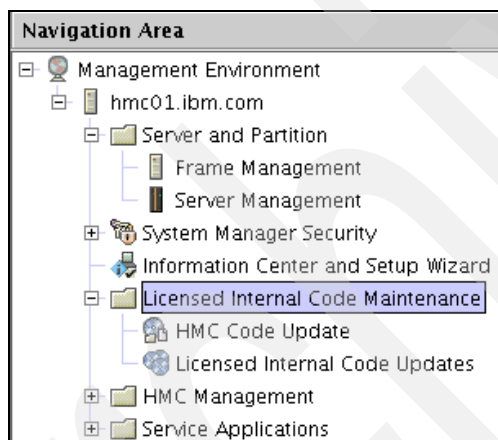

Figure 9-40 Navigation Area Window, Licensed Internal Code Maintenance
1. In the Navigation area, open the Licensed Internal Code Maintenance icon (Figure 9-40).